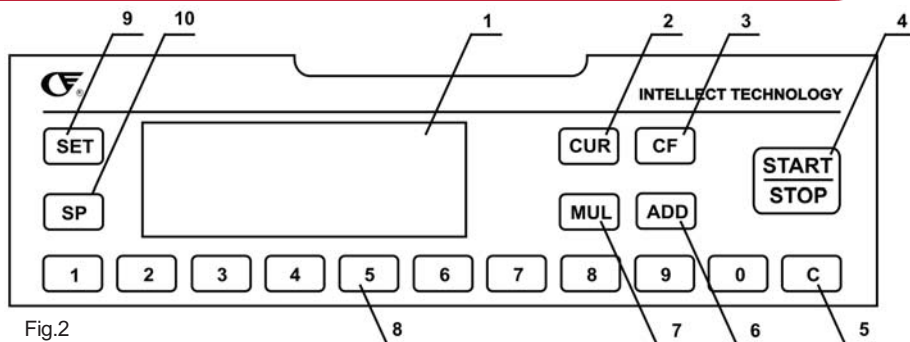

Fig.2
On the display (see Fig. 2) shows the following information:
2. The “CUR” button allows toggling the device for the different types of supported currencies: RUR, USD, EURO, or other. Each pressing of the “CUR” button changes the currency type, with the current currency shown on the display (see Fig. 2-J). A blank space in position J indicates the device is set for other currencies.
ding detections at their specified places (see Fig. 2-D, 2-E, 2-F, 2-G).
5. The **"CLR"** button resets all the figures. After pressing this button, the counting results (see Fig. 2-B) will be cleared and the device will exit batch mode.
Pressing this button will put the device in summation mode, and the symbol "+" (see Fig. 2-H) will light up. Press a second time and the counter will exit from summation mode.
7. The **"MUL"** button toggles the device between manual and automatic starting mode. Press the **"START/STOP"** button to start counting in the manual mode and the symbol " " will light up (see Fig. 2-I). In automatic mode the counter starts automatically when you place a stack of banknotes in the hopper.
8. The digit buttons "0" to "9" are used for entering number values (see Fig. 2-B) in batch mode (counting of a specified number of banknotes). Press any button (0-9) to enter batch mode automatically.
This detection is designed to authenticate the density of each banknote and will prevent doubled or chained banknotes from being counted as one. It should be noted that a stack of banknotes can contain both new and worn bills, which have different densities. In the event that the optical density sensitivity is set to a high level, worn banknotes will result in an error. Optical density detection is switched on by default for all counters. Press the “CF” button until the “ED” sign appears on the display (Fig. 2-D) to turn on optical density detection.
Detecting the width of a banknote aids in authenticating that note. If the counter recognizes the size of a banknote is smaller (for example, a sensitivity level of $dd = 3$ corresponds to 4 mm) than the previously counted banknotes, the counter will alert the operator to the presence of a suspicious note. This can also be used to sort banknotes by detecting the size differences between different face values of a given currency. For example EURO 500 and EURO 50 banknotes differ in size by 5mm. Width detection is on by default for all counters in this series. Press the “CF” button until “DD” appears on the display (Fig. 2-E) to switch on this detection.
UV detection is designed for various currencies and all kinds of banknotes. The counter automatically tests the UV reflection level of the banknotes. If the level is incorrect, the device stops counting and an error message is displayed. Suspicious banknotes will always be placed on top of the output stack. Such a banknote should be verified for authenticity. Remember that original banknotes accidentally exposed to hostile environment can also have an incorrect UV-level. Press the “CF” button until “UV” appears on the display (Fig. 2-F).
MG detection is designed for testing Russian rubles (except banknotes of face value 5 and 10), EURO, and USD. When a suspicious banknote is recognized without the proper magnetic marks, the counter stops and an error message will be shown on the display. Suspicious banknote will be placed on the top of the stack of banknotes. Such a banknote should be verified for authenticity. Press the “CF” button until “MG” appears on the display (Fig. 2-G) to switch on this detection. The “CUR” button is used to set the currency type (RUR, EURO, or USD). When magnetic detection is on, it is necessary to align banknotes in the middle of the auxiliary hopper plates (Fig. 1-4).
- Display (Fig 2-A) will show the results